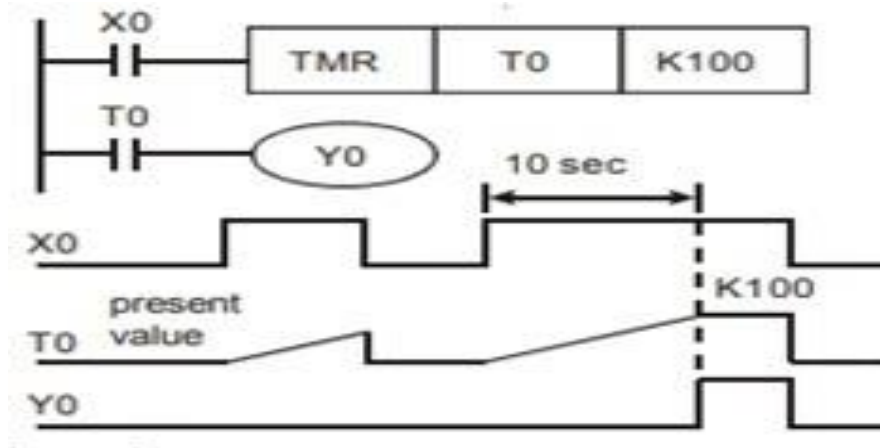

Fig.3 ON delay timer using Programmable Logic Controller
1. Analyze the results of ON delay timer operation for fig.3 using ladder diagram in terms of concepts.